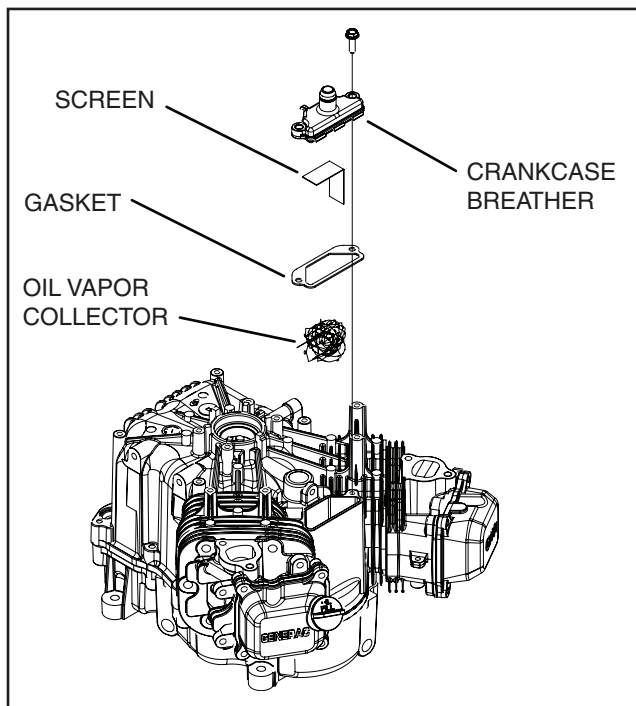

Figure 2-8. – Crankcase Breather
2. Install breather with new gasket (Figure 2-8).